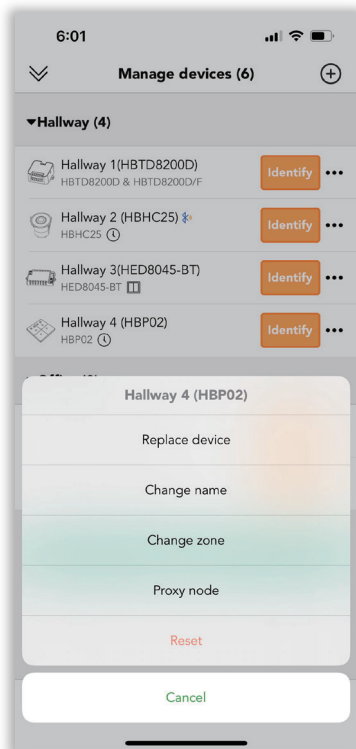

Figure 7.7 Reset-2
2. Click ... to reset, like “Hallway 2(HBHC25)” (see figure 7.7).